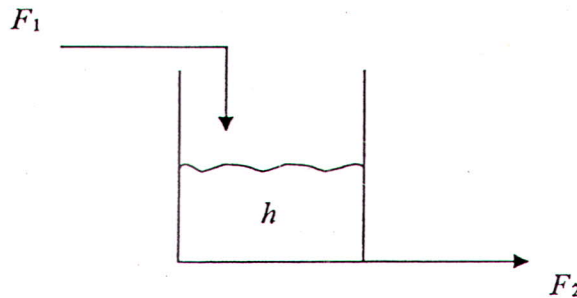

Fig. 1. Liquid level system.
2. (a) Consider a liquid level system shown in Fig. 1. The level ( $h$ ) is controlled by manipulating the outlet flow rate ( $F_2$ ) with the use of a P-only controller that has a variable proportional gain as  $K_C = K_{CO}|e|$ . Discuss the tuning of  $K_{CO}$  with developing a suitable correlation for it based on the regulatory performance.